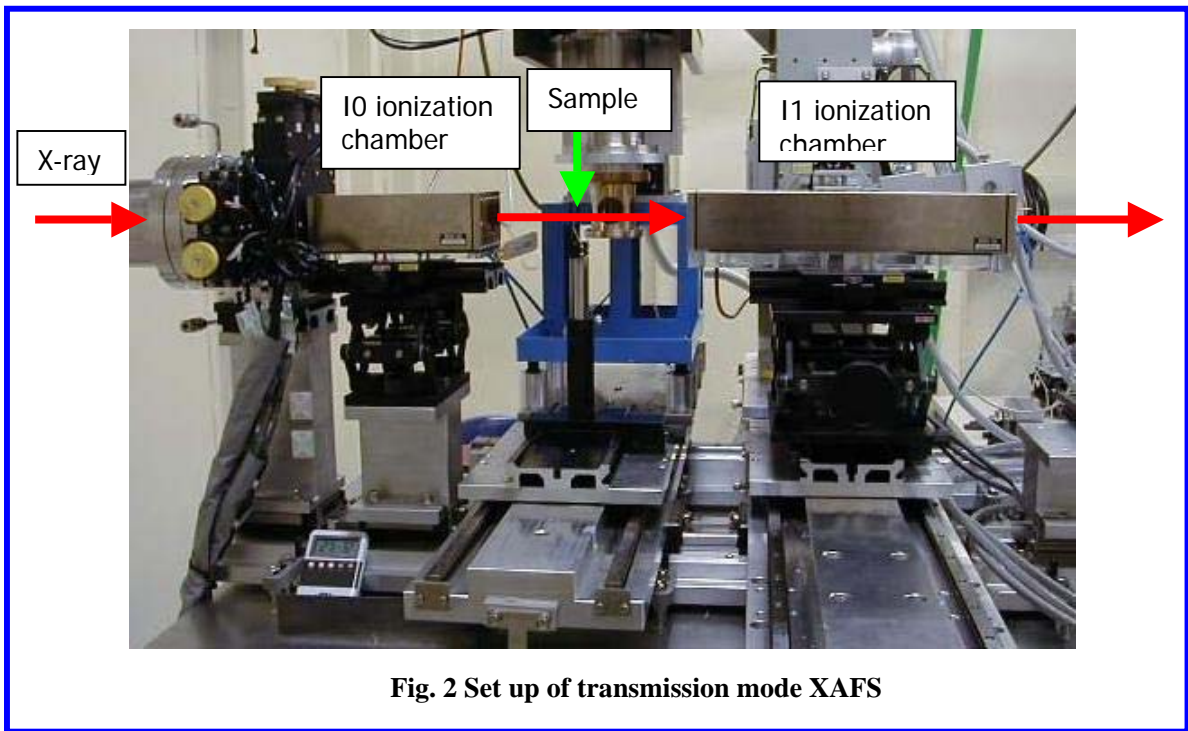

Fig. 2 Set up of transmission mode XAFS
- Switch of diffraction plane of monochromator crystals between Si(111), Si(311) and Si(511) to cover energy range for XAFS measurements.
- Fine adjustment of slits and mirrors in the optics hutch is done by measuring x-ray intensity using 1st ionization chamber in the experimental hutch (Fig. 2).
- The arrangement and control system for transmission mode Quick XAFS measurements are shown in Figs. 2 and 3.